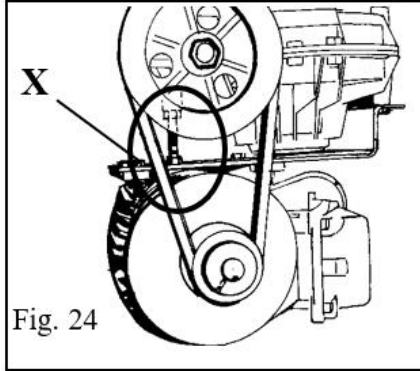

Fig. 24
- Tighten the drive belt by means of the special adjusting screw X on the motor support (Fig. 24).